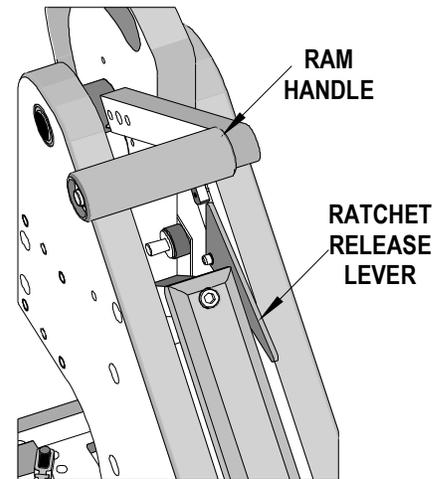

Figure 2-5
**Warning:** Once the press ram handle has started to descend, it cannot be returned to the up position until the full stroke of the press has been completed. In case of a jam or some other problem, should the press ram ever need to be returned to the up position before completing the full stroke, pull up on the ratchet release lever, and raise the press ram handle. The ratchet release lever is located on the upper left side of the press frame. See Figure 2-5.